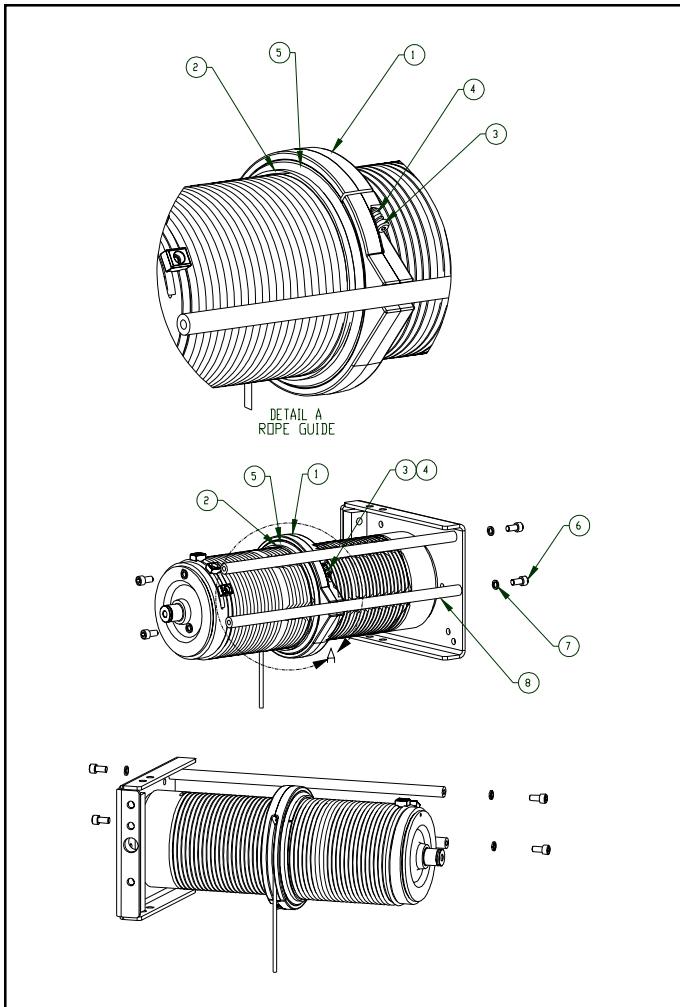

Figure 5-3 Rope Guide Assembly
b) **Disassembly of "A" Frame Rope Guide.** Refer to Fig. 5-3. For further assistance in locating components, refer to the parts list in Section IX.
- (1) Remove socket head cap screws and lock washers (Items 6 and 7). Remove drum frame rod (Item 8).
- (2) Remove shoulder bolts (Item 3) and compression springs (Item 4). The two halves of the rope guide body (Item 1) can now be pulled off the drum separately. When reassembling be sure that the half with the rope slot is on the top half of the drum.